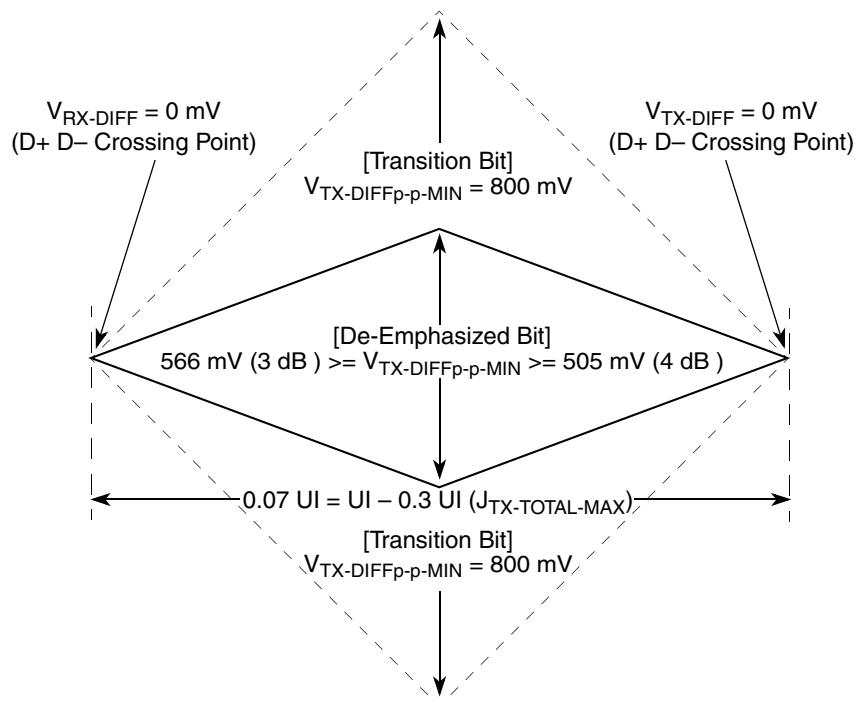
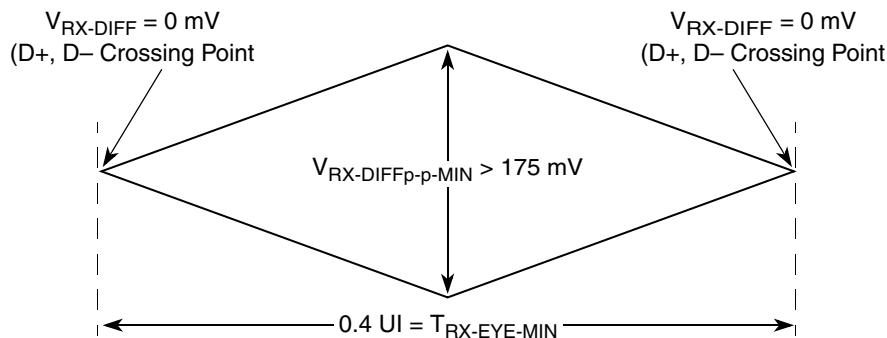
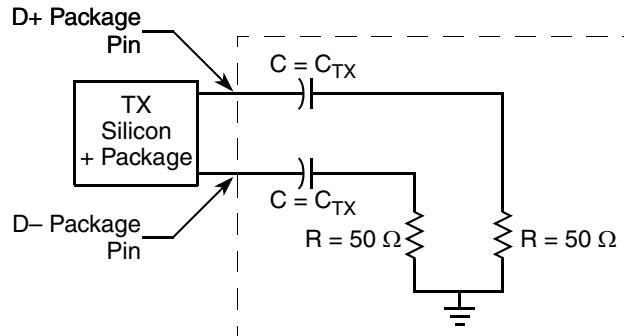

Figure 69. Minimum Transmitter Timing and Voltage Output Compliance Specifications
Figure 70. Minimum Receiver Eye Timing and Voltage Compliance Specification
Figure 71. Compliance Test/Measurement Load
The TX eye diagram in Figure 69 is specified using the passive compliance/test measurement load (see Figure 71) in place of any real PCI Express interconnect + RX component.
2. Specified at the measurement point and measured over any 250 consecutive UIs. The test load in Figure 71 should be used as the RX device when taking measurements (also refer to the Receiver compliance eye diagram shown in Figure 70). If the clocks to the RX and TX are not derived from the same reference clock, the TX UI recovered from 3500 consecutive UI must be used as a reference for the eye diagram.
4. The Receiver input impedance shall result in a differential return loss greater than or equal to 15 dB with the D+ line biased to 300 mV and the D- line biased to -300 mV and a common mode return loss greater than or equal to 6 dB (no bias required) over a frequency range of 50 MHz to 1.25 GHz. This input impedance requirement applies to all valid input levels. The reference impedance for return loss measurements for is 50 ohms to ground for both the D+ and D- line (that is, as measured by a Vector Network Analyzer with 50 ohm probes - see Figure 71). Note: that the series capacitors CTX is optional for the return loss measurement.
The RX eye diagram in Figure 70 is specified using the passive compliance/test measurement load (see Figure 71) in place of any real PCI Express RX component.
Note: In general, the minimum Receiver eye diagram measured with the compliance/test measurement load (see Figure 71) will be larger than the minimum Receiver eye diagram measured over a range of systems at the input Receiver of any real PCI Express component. The degraded eye diagram at the input Receiver is due to traces internal to the package as well as silicon parasitic characteristics which cause the real PCI Express component to vary in impedance from the compliance/test measurement load. The input Receiver eye diagram is implementation specific and is not specified. RX component designer should provide additional margin to adequately compensate for the degraded minimum Receiver eye diagram (shown in Figure 70) expected at the input Receiver based on some adequate combination of system simulations and the Return Loss measured looking into the RX package and silicon. The RX eye diagram must be aligned in time using the jitter median to locate the center of the eye diagram.
The reference impedance for return loss measurements is 50. to ground for both the D+ and D- line (that is, as measured by a Vector Network Analyzer with 50. probes—see Figure 71). Note that the series capacitors, C_{TX} , are optional for the return loss measurement.